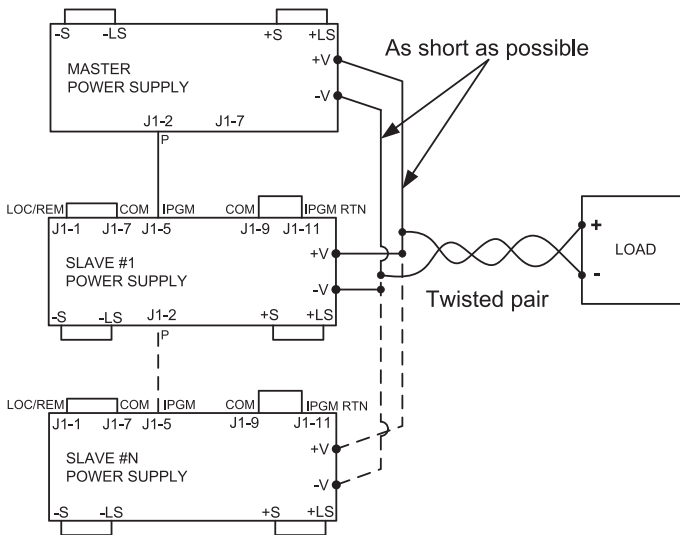
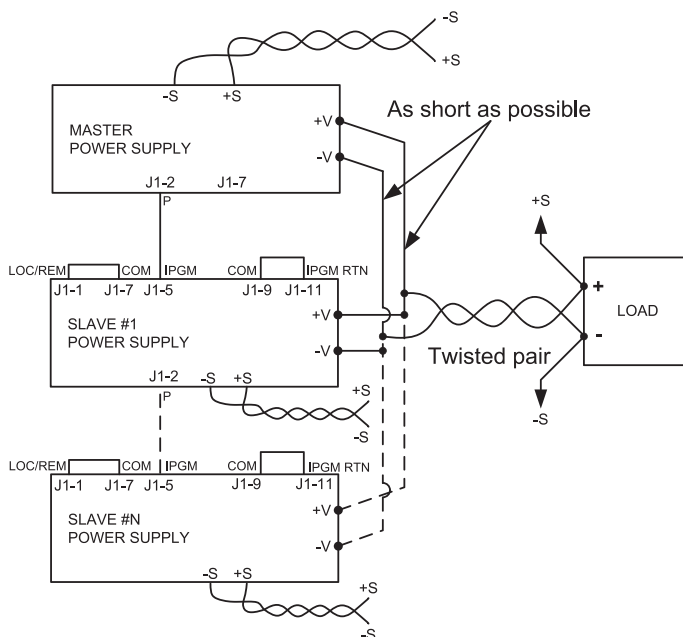

Fig.5-4: Parallel connection with local sensing
Fig.5-5: Parallel operation with remote sensing
During operation, the master unit operates in CV mode, regulating the load voltage at the programmed output voltage. Connect the sensing circuit to local or remote sensing as shown in Fig.5-4 or Fig.5-5. Front Panel Main Menu Parallel mode is "H 1" as default.
5. For wiring instructions, refer to Fig.5-4: Parallel connection with local sensing or Fig.5-5: Parallel connection with remote sensing.
In parallel operation, power supplies can be connected in local or remote sensing. Refer to Fig.5-4 and 5-5 for typical connections of parallel power supplies. The figures show connection of two units, however the same connection method applies for up to 6 units.
During operation, the master unit operates in CV mode, regulating the load voltage at the programmed output voltage. Connect the sensing circuit to local or remote sensing as shown in Fig.5-4 or Fig.5-5.
6. For wiring instructions, refer to Fig.5-4: Parallel connection with local sensing or Fig.5-5: Parallel connection with remote sensing and Section 5.6: Daisy-Chain connection.